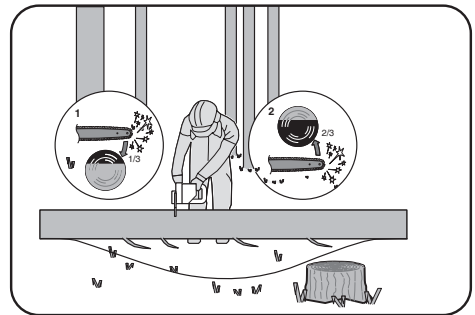

Figure 5
When the log is supported both ends, as illustrated in Figure 5, cut 1/3 the diameter from the top (overbuck) (1). Then make the finished cut by